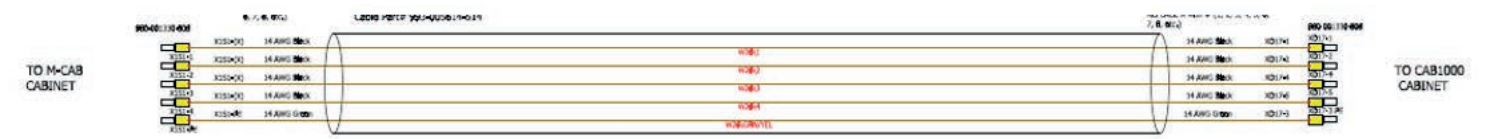

Figure 130. C-Cab XXL E-Stop Control Cable Harness
4. The other end of “HES-XXL1M1/C-Cab XXL1-CNL” Figure 130 cable harness needs to be routed through the bottom of the M-Cab XXL.